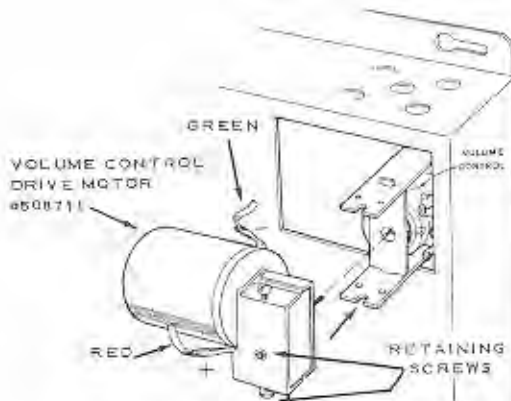

Figure 2. Drive Motor Installation.
2. Remove and discard fibre volume control cover. Install the volume control drive motor on the amplifier as shown in Figure 2. Tighten retaining screws.